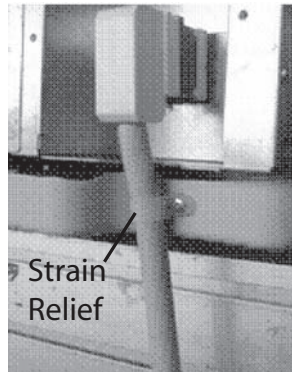

Figure 3. Strain relief
5. Remove the power cord strain relief, and wrap it around the power cord. Reconnect the strain relief to the PTAC unit. See Figure 3.